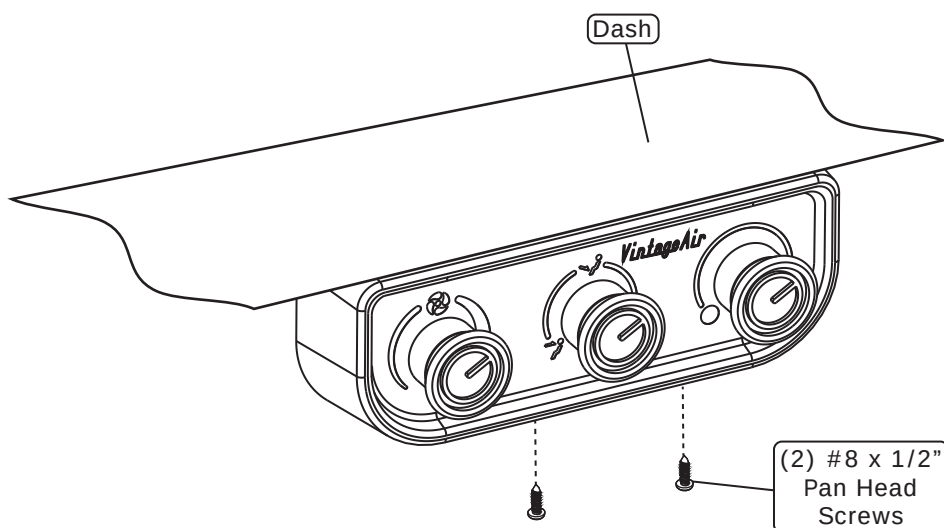

Figure 1
1. Install the control panel pod assembly under the dash and secure it using (2) #8 x 1/2" pan head screws as shown in Figure 1, below.